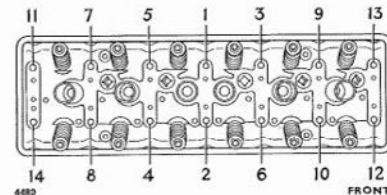

Fig. B.74. Cylinder head bolt tightening sequence
Reference to Fig. B.74 will show that the cylinder head bolts are obscured by the rocker cover and rocker gear. Therefore to effect the operation of tightening the bolts, the rocker cover must be removed as described under "To Adjust the Valve Clearances", paras. 1 to 5 inclusive, and the Churchill "U" Shaped Wrench R.G.274A used in conjunction with a torque wrench. If the Churchill Wrench R.G.274A is not used, the rocker gear must be removed to gain access to the cylinder head bolts. Proceed to tighten the cylinder head bolts, in the following manner:
1. With the engine hot, tighten the bolts in the correct sequence as shown in Fig. B.74, to a torque wrench reading of 65/70 lb. ft. (8.99/9.68 kg. m.).